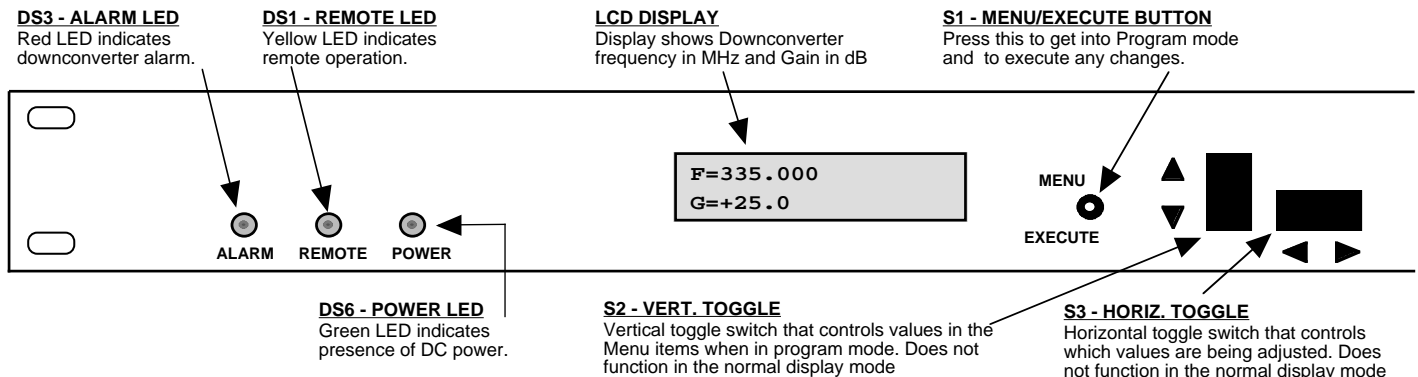

FIGURE 2.3 2016-275 Front Panel Controls and Indicators
Figure 2.3 shows the front panel controls and indicators.
6. Be sure DS6 (green, DC Power) is on and DS3 (red, Alarm) is off (Figure 2.3).
Alarm indications appear on the LEDs (see figure 2.3).